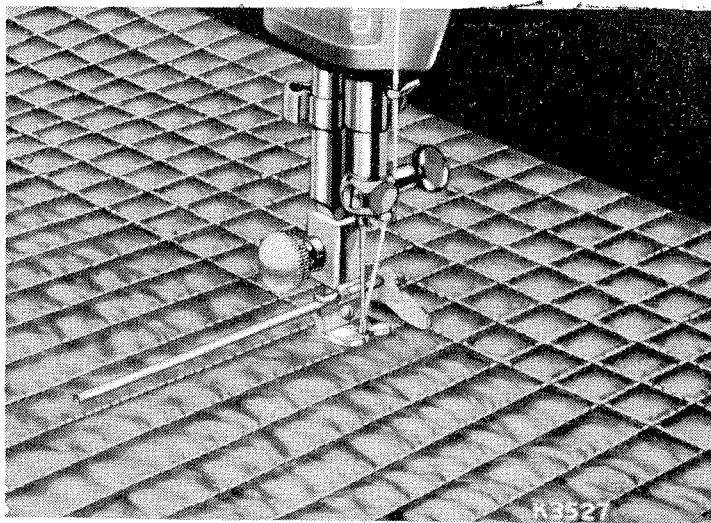

Fig. 49.
**To Quilt.**—For the first row of stitching, let the quilter guide follow the edge of the material, a straight crease, or a line, as preferred. Succeeding rows are made straight, and at a uniform distance, by keeping the previous row steadily under the guide, as shown in Fig. 49.